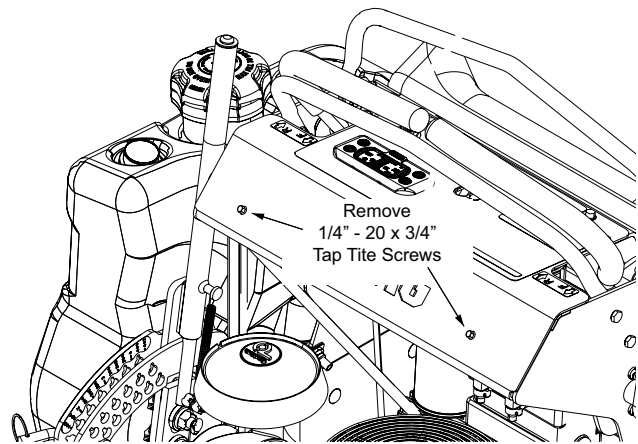

Figure 3-34. Control Panel Hardware Removal
14. Install the E-OCDC discharge chute to the cutter deck. Secure using two (2) 5/16-18 x 1-3/4" bolts and two (2) 2 5/16-18 elastic stop nuts. See Figure 3-34.
16. Secure the upper control link to the OCDC discharge chute using one (1) 5/16-18 x 1-1/4" bolt and one (1) 5/16-18 elastic stop nut. See Figure 3-34.